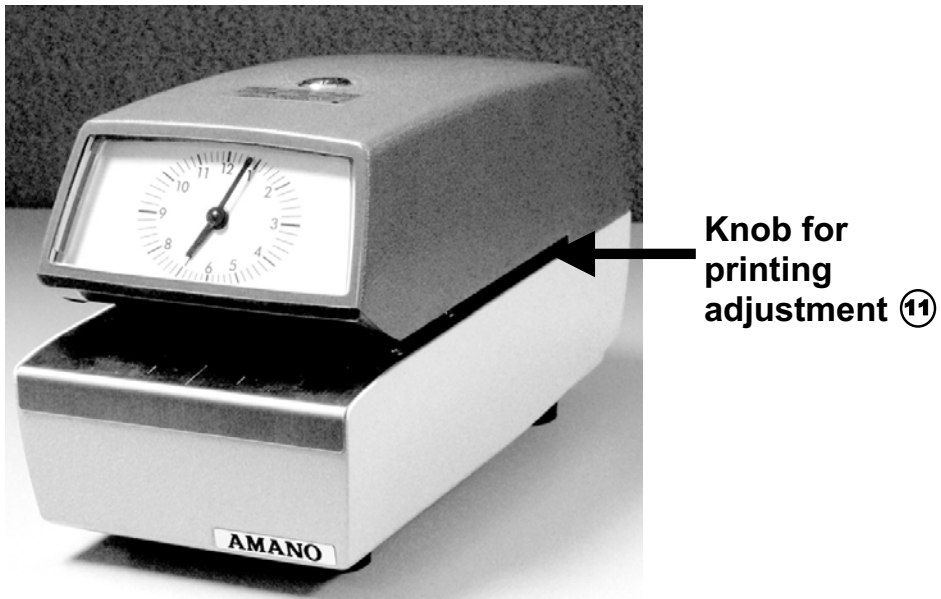

Figure 8.
(Refer to Fig. 8, 9 & 10)
- The printing position can be adjusted by moving the **knob** [11] (see Figures 8 & 9) between 37 mm – 83 mm (1.5" – 3.25") from the top of the paper. When the upper die plate hammer is taken out, the printing position can be within 16 mm – 83 mm (.66" – 3.25") from the top of the paper.